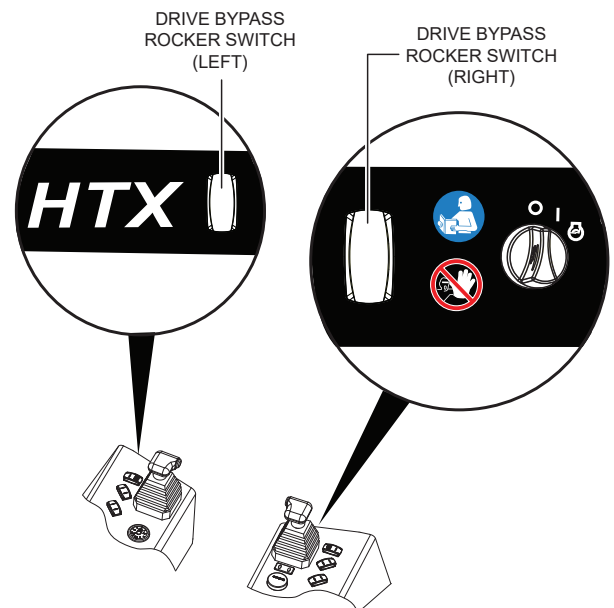

Figure 28. Drive Bypass Rocker Switches
2. **Without sitting in the operator's seat**, press and hold either drive bypass rocker switch (Figure 28) and press the foot pedal (by hand) to slowly rotate the trowel blades.